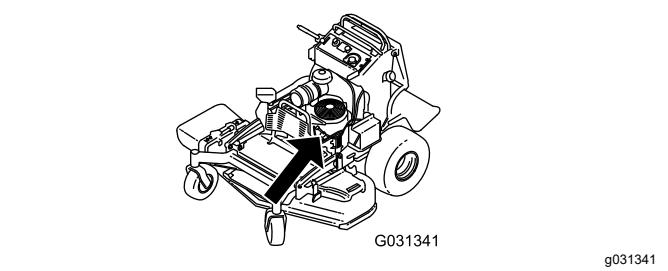

Figure 46
2. Change the engine-oil filter (Figure 46).